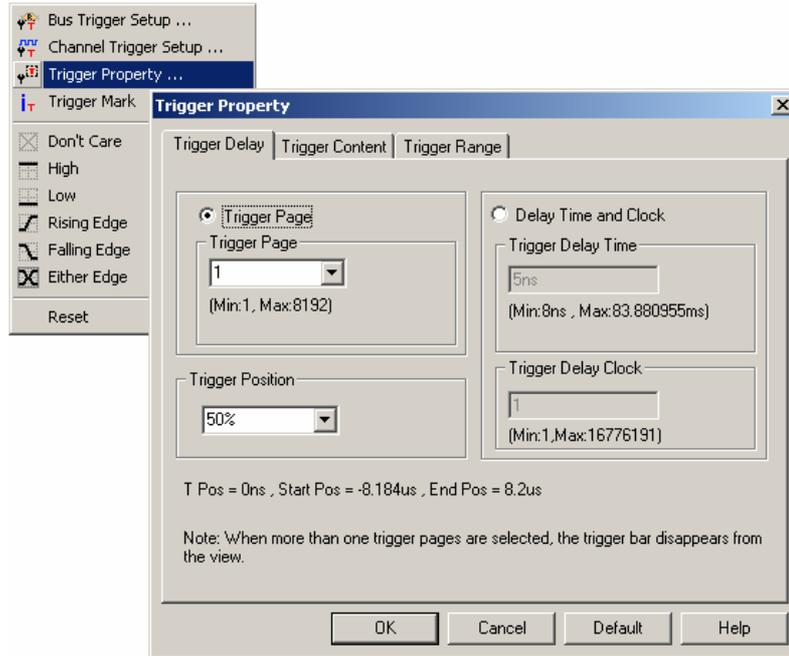

Fig 4-5 - Trigger Property
**Step1.** Click  icon or click **Trigger Property** from the **Trigger** on the Menu Bar. The dialog box will appear as shown in Fig 4-5.